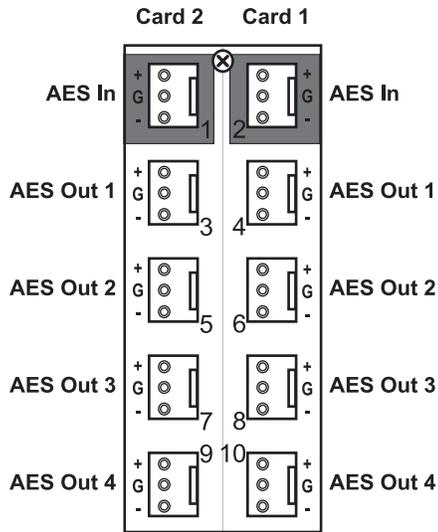

Figure 10 Cabling for the 8320AR-043
- 8320AR-043 — Each rear module occupies two slots and accommodates two cards. This rear module provides one AES input and four outputs per card. (**Figure 10**)